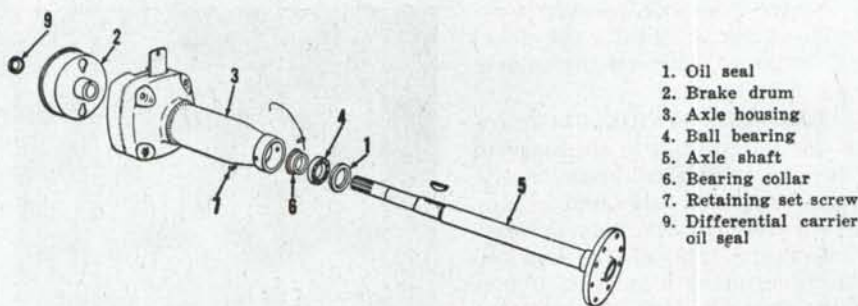
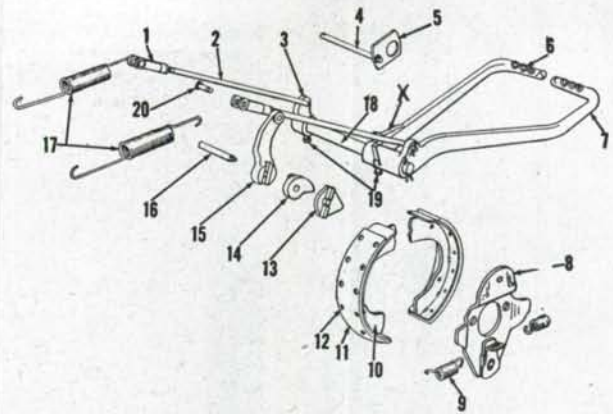

Fig. AC131—Exploded view of G rear axle shaft, housing and brake drum unit.
Fig. AC137—Model G linkage and components for the Bendix brake unit. Pedal stop is shown at point (X).
287. AXLE SHAFT, BRAKE DRUM OR BEARING. To renew shaft (5—Fig. AC131), oil seal (1), or bearing (4), first remove axle shaft and housing unit from tractor. After unit is off tractor, remove the two axle shaft
The 8 inch Bendix brakes, shown in Fig. AC137 are of the internal expanding type, bolted to the differential bearing carrier (10—Fig. AC110). The brake drums are pressed and keyed directly to the wheel axle shafts as shown in Fig. AC131.
304. Each pedal should have approximately 1½ in. of free travel before lining contacts the brake drum. To adjust, raise rear wheel and remove brake rod (2—Fig. AC137) from pedal. To reduce free travel (tighten brake), turn brake rod into brake lever attaching yoke end (1). Both brakes should be adjusted equally.